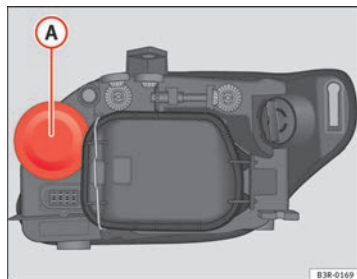

Fig. 208 Main beam headlights
- Pull up on the rubber cover **A** ⇒ fig. 208 to remove it.